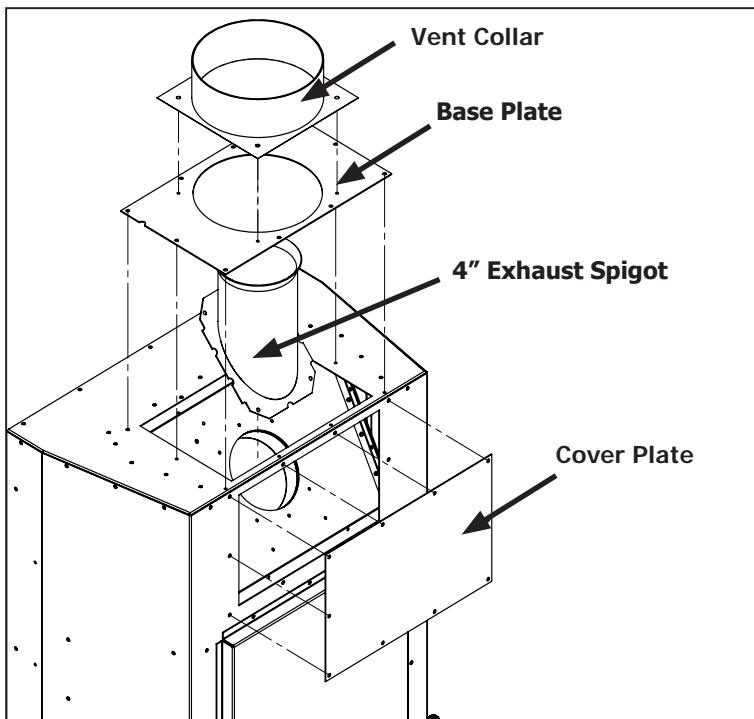

Figure 38: Removal of Co-Axial Venting
**Step 1:** Using a T20 screwdriver remove the vent collar, base plate, cover plate and 4" exhaust spigot (28 screws total) as shown in Figure 38. The vent collar, base plate, and 4" exhaust spigot will no longer be used.